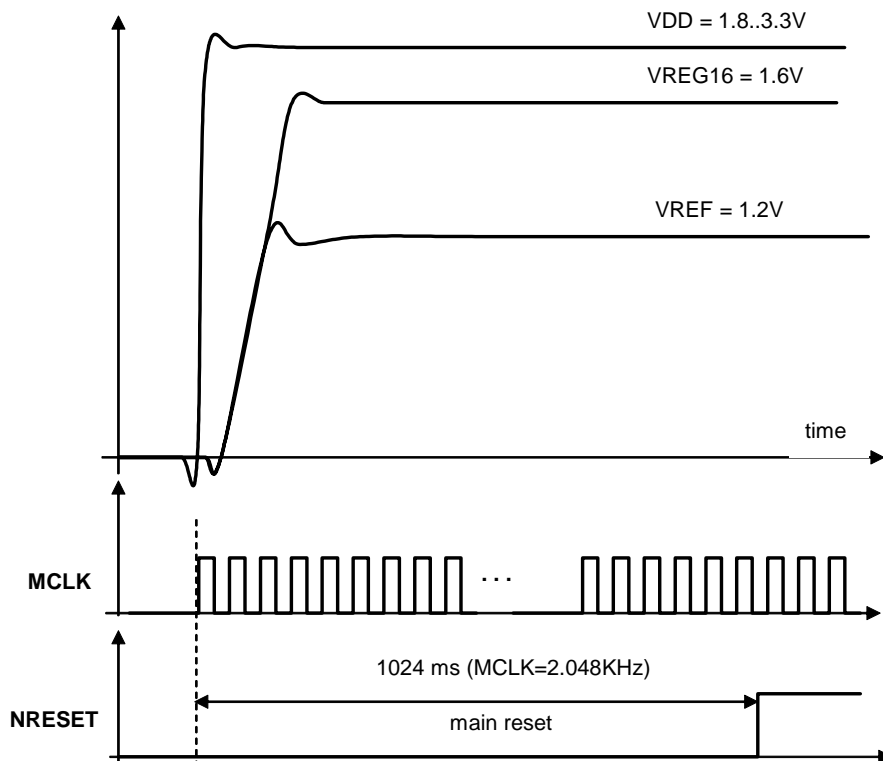

Figure 5: Startup sequence and NRESET signal after power-on.
The NRESET signal generated by the ADC is used to initialize the various blocks in the device and guarantees a correct start-up of the circuit. The start-up sequence that is automatically carried out upon power-up of the device is listed below and illustrated in Figure 5.
- 1) NRESET is low (0V) when the device is not powered and remains low for a short time when VDD (upper curve in Figure 5) is applied. The low state sustains while VDD, VREG16, VREF are stabilizing.
- 1) Leave the NRESET pin not connected. In this case the ADC will startup as described in figure 5.